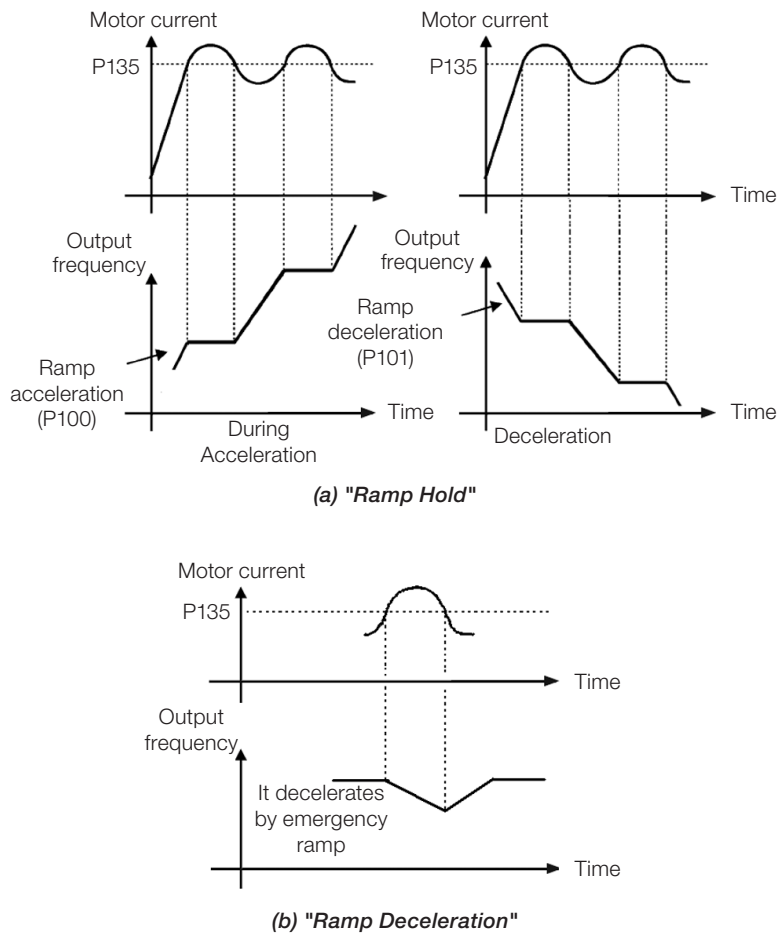

Figure 11.5: (a) and (b) Actuation modes of current limitation via P135
- Actuation: if the motor current exceeds the value set in P135 during acceleration or deceleration, the frequency will not be incremented (acceleration) or decremented (deceleration). When the motor current reaches a value below P135 the motor accelerates or decelerates again. Refer to Figure 11.5 on page 11-6.
- Actuation: if the motor current exceeds the value set in P135, a null value is forced for the frequency ramp input forcing the motor deceleration. When the motor current reaches a value below P135 the motor accelerates again. Look at Figure 11.5 on page 11-6.
Current level to activate the current limitation for the Ramp Hold and Decelerate Ramp modes, as per Figure 11.5 on page 11-6 (a) and (b), respectively. In order to disable the current limitation, you must set parameter $P135 > 1.9 \times I_{nom}$.